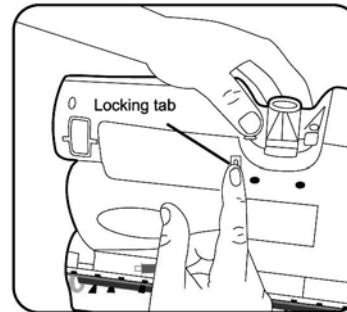

Fig. 16
- Turn unit over so that the base is facing upwards. Be careful not to turn the unit ON. (Fig. 16)